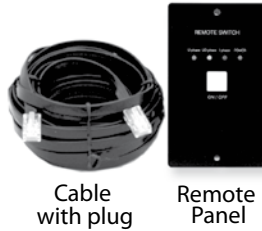

Fig 7.4 Remote Control Panel Model No. 900-RC
An optional wired Remote Control Panel Model No. 900-RC (Fig 7.4 above) can be ordered. It comes with 10 meters of RJ-45, 8P8C Modular, Straight cable . It is plugged into the Remote Control Jack (6). The Remote Control Panel can be used to switch ON / switch OFF the charger and also monitor the charging status of the charger from a remote location. **Please read the manual for the optional Remote Control Panel 900-RC for related indications.**